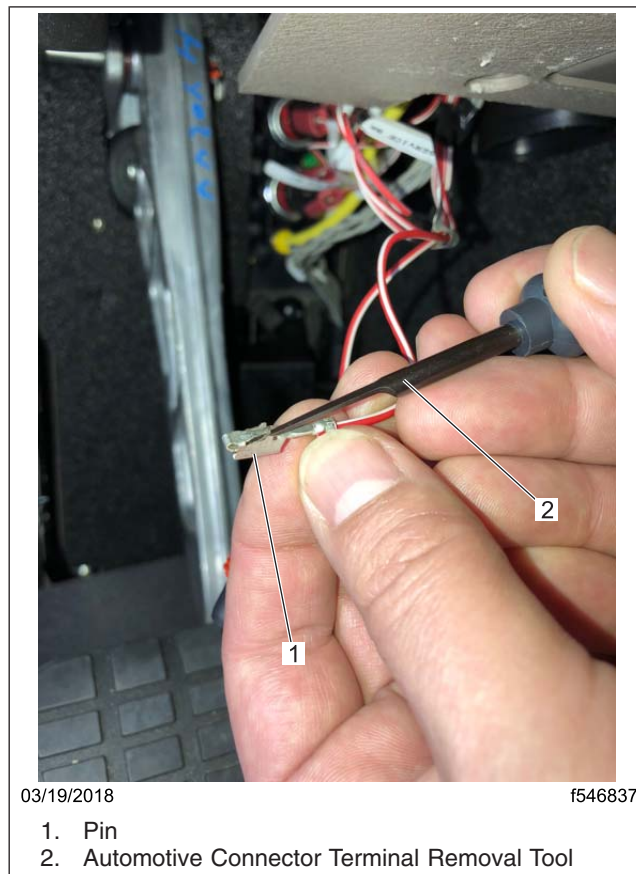

Fig. 8, Retentioning the Pin Latch
9. With the seal removed, use the automotive connector terminal removal tool to retention the latch on the pin. If this is not done, the pin may not latch and could push out when the connector is installed. See Fig. 8.